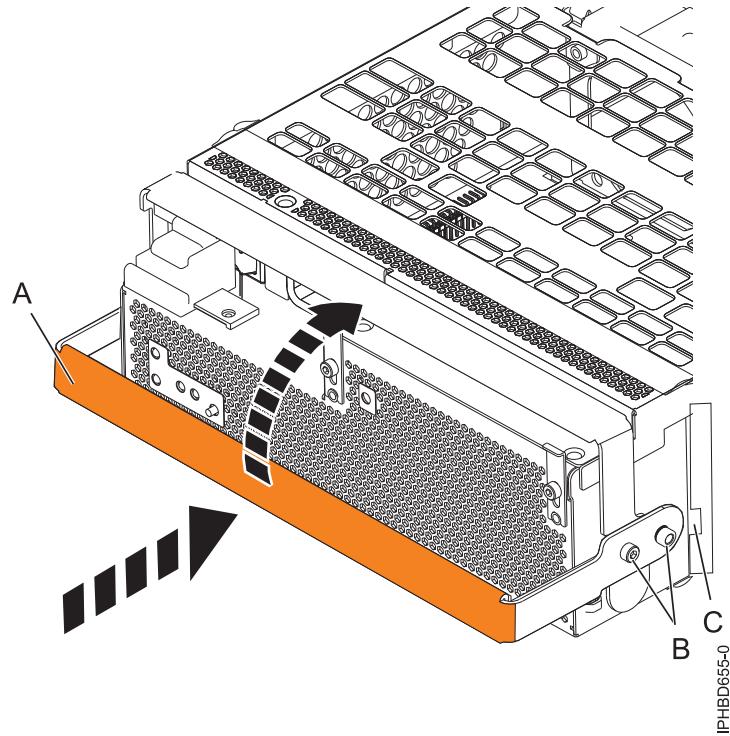

Figure 75. Replacing a power supply
10. To replace the power supply, with the locking handle (A) in the open position, push the power supply into the expansion unit as shown in Figure 75 on page 135.
11. Close the locking handle (A) until the power supply locks into position.